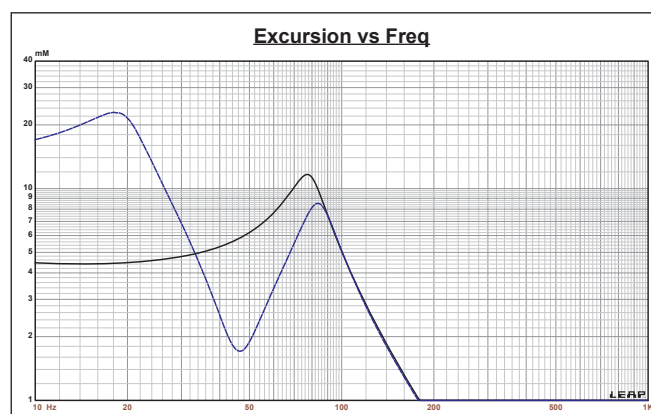

Figure 4: Cone excursion curves for the 150V curves shown in Figure 2
**Figure 4** shows the 150V excursion curves. I limited the voltage on the vented simulation because the driver started to over excure below 35Hz, and like most all vented systems, should be band-limited with a high-pass filter.